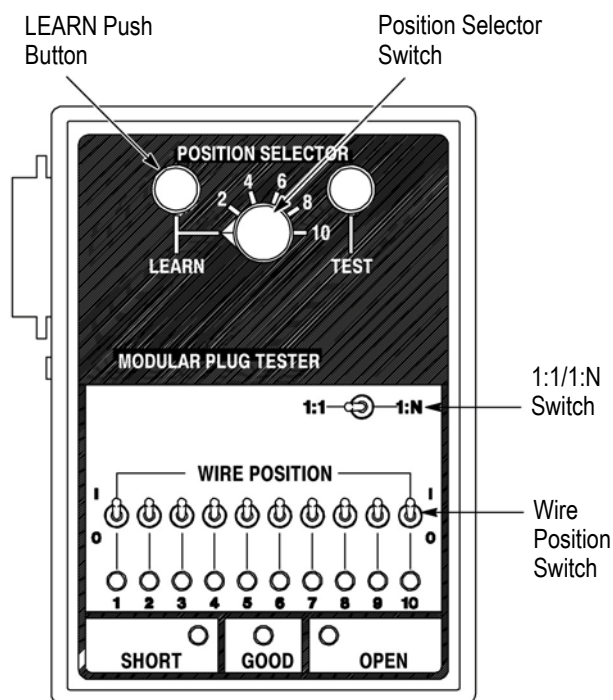

Figure 5
3.3. Automatic Circuit Tester Setup (Figure 5)
3. Set the tester switches in the following manner (see Figure 5).